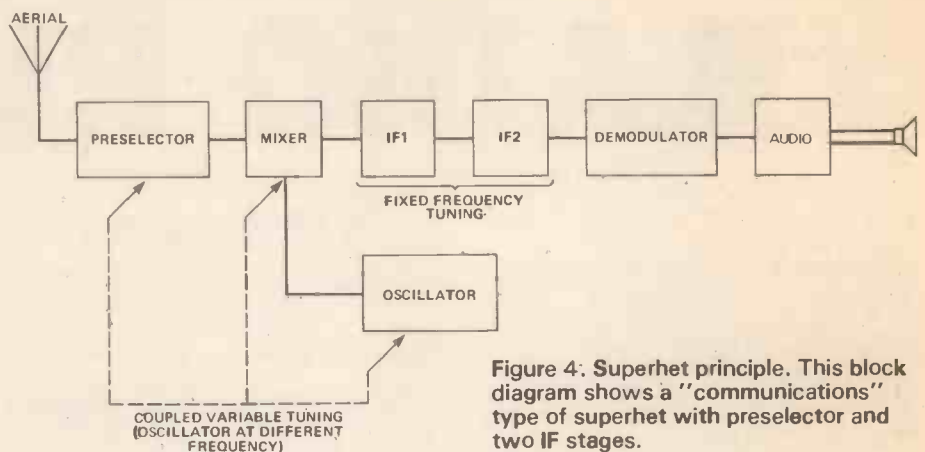

Figure 4: Superhet principle. This block diagram shows a "communications" type of superhet with preselector and two IF stages.
the modulation of the new Intermediate Frequency (IF) signal is the same as the modulation of the carrier that was received from the aerial, because the shape of the modulation is not affected by the frequency-changing operation. The IF is now amplified and selected, because this is a fixed frequency which can use preset tuning, with no variable capacitors to be adjusted. Because of this, the IF stages can be shielded to prevent feedback, with no holes in the shielding for variable capacitors. In any case, if there is any feedback to the aerial, it is less likely to cause oscillation, because the aerial circuits are tuned to the frequency of the incoming carrier, and the IF is at a different, lower frequency. The scheme is shown in Figure 4, and we can analyse what is happening by considering each block separately.